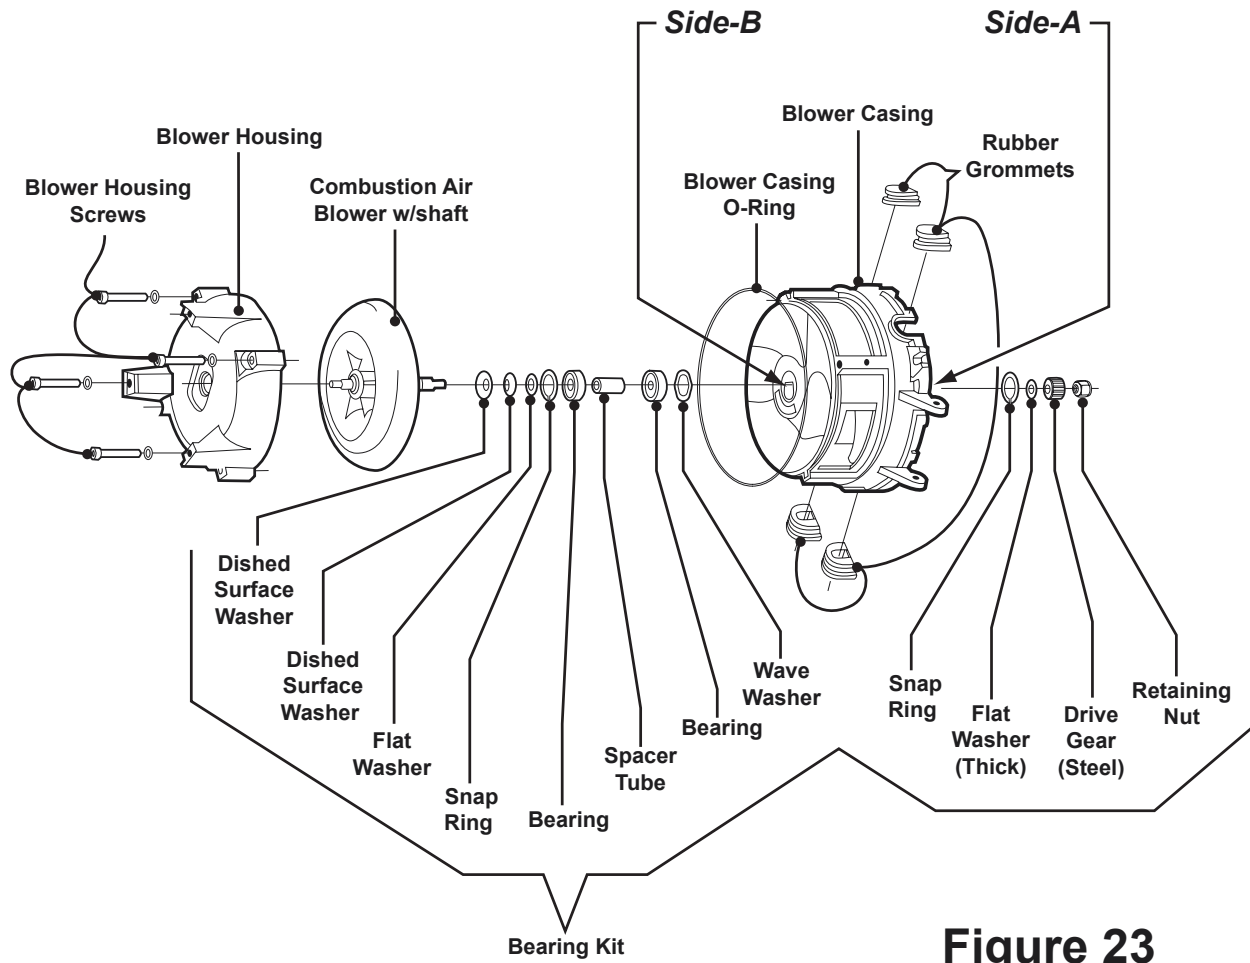

Figure 23
6. Remove the four *Blower Housing Screws* that secure the *Blower Housing* to the *Blower Casing*, reference Figure 23. Remove the *Blower Housing* so that the *Combustion Air Blower* is exposed, reference Figure 23.
NOTE: Be sure to observe the placement of the three *Washers* of the Bearing Kit illustrated in Figure 23. To ensure proper tension, the same order and direction of the dished surfaces of the *Washers* must be followed when reassembling.
8. With a pair of snap-ring pliers, remove the *Snap Rings* from both Side-A and Side-B of the *Blower Casing*, reference Figure 23. Push all the contents of the Bearing Kit out of the *Blower Casing's* bore / bearing cavity. Discard the *Retaining Nut*, steel *Drive Gear*, *Snap Rings*, *Bearings*, *Spacer Tube*, and *Washers*, as replacements are provided in the new Bearing Kit.
9. Install a new *Snap Ring* into Side-A of the *Blower Casing*, reference Figure 23. Once the *Snap Ring* is in place, insert the remaining contents of the new Bearing Kit into Side-B of the *Blower Casing*, starting with the *Wave Washer*, as illustrated in Figure 23. Secure the Bearing Kit assembly in place with the remaining *Snap Ring* (Side-B).
- A:** Reference Figure 23 for exact placement of the three *Washers* that slide over the threaded end of the Combustion Air Blower's shaft prior to installation. Failure to follow the correct order and direction of the dished surfaces on the *Washers* will result in a restricted rotation of the *Combustion Air Blower*.
through the Bearing Kit assembly until the threaded portion appears on Side-A of the *Blower Casing*, reference Figure 23. Place the new thick flat *Washer* and steel *Drive Gear* on the threaded end of the Combustion Air Blower's shaft. Thread the new *Retaining Nut* on the Combustion Air Blower's shaft until it is finger tight (**DO NOT TIGHTEN**).